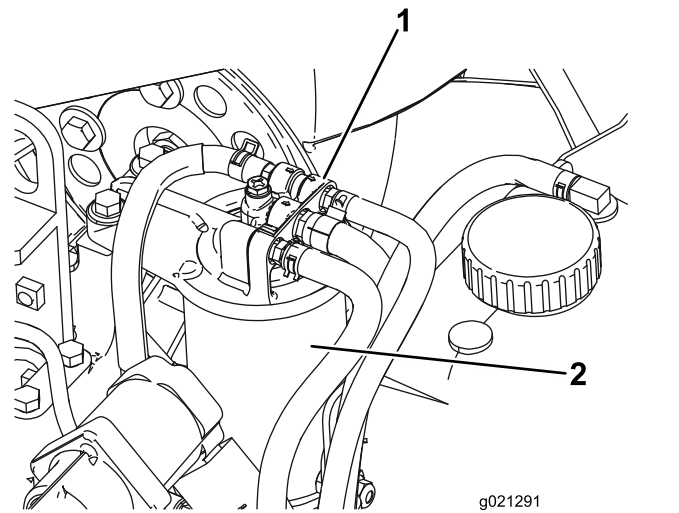

Figure 95
2. Clean the area around the fuel-filter head (Figure 95).
3. Remove the filter and clean the filter-head mounting surface (Figure 95).